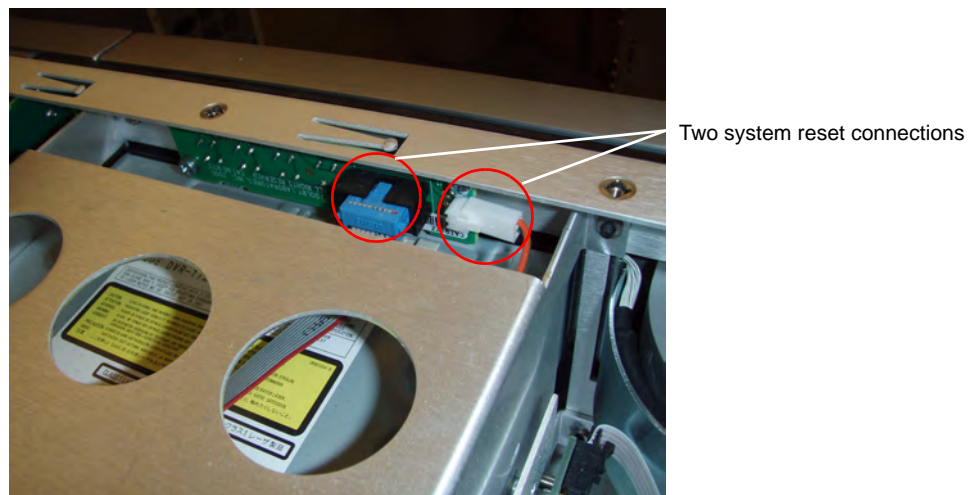

Figure 11 Connections to System Reset PCB
9. Locate the two connections to the front-panel system reset printed circuit board (PCB) shown in Figure 11).